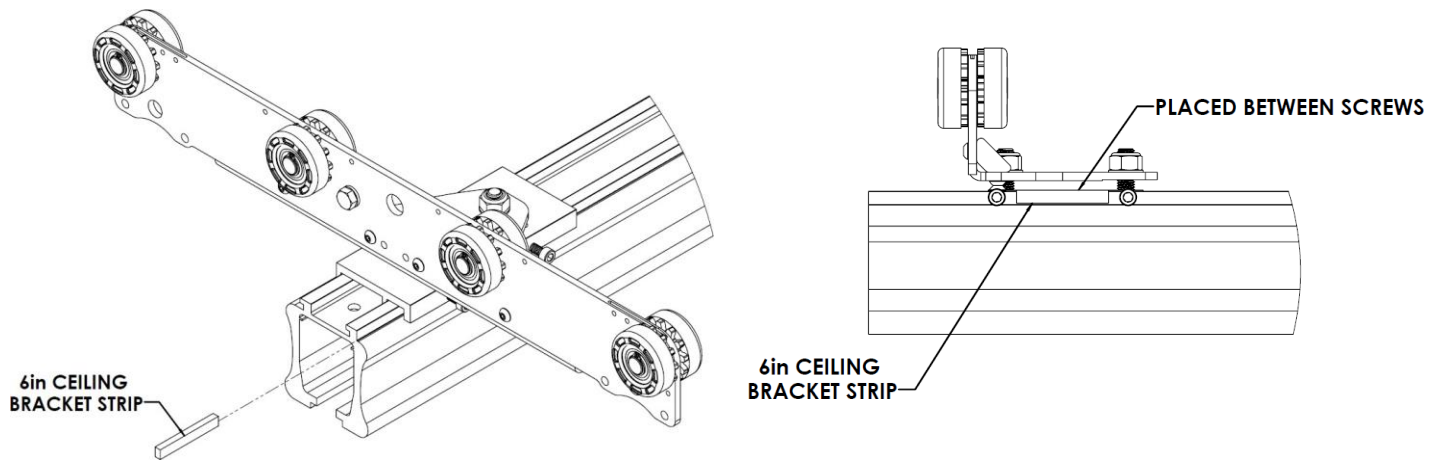

Figure 23: **Bracket Strip Installation**
6. On both gantry brackets, install the included bracket strips (360449) between the track channel and the set screws, as shown in Figure 23. To insert the bracket strip: